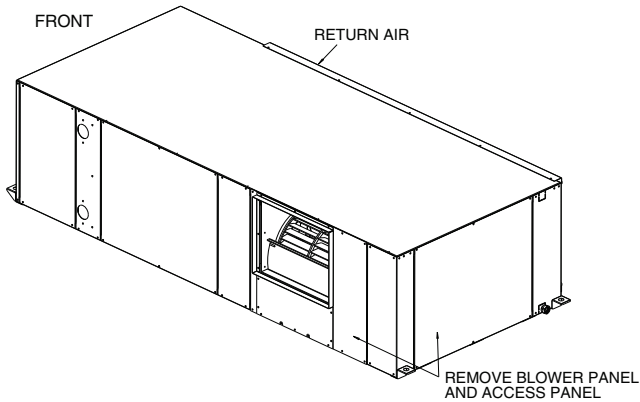

Fig. 6 — Removing Panels
1. Remove back panel and side access panel. See Fig. 6.